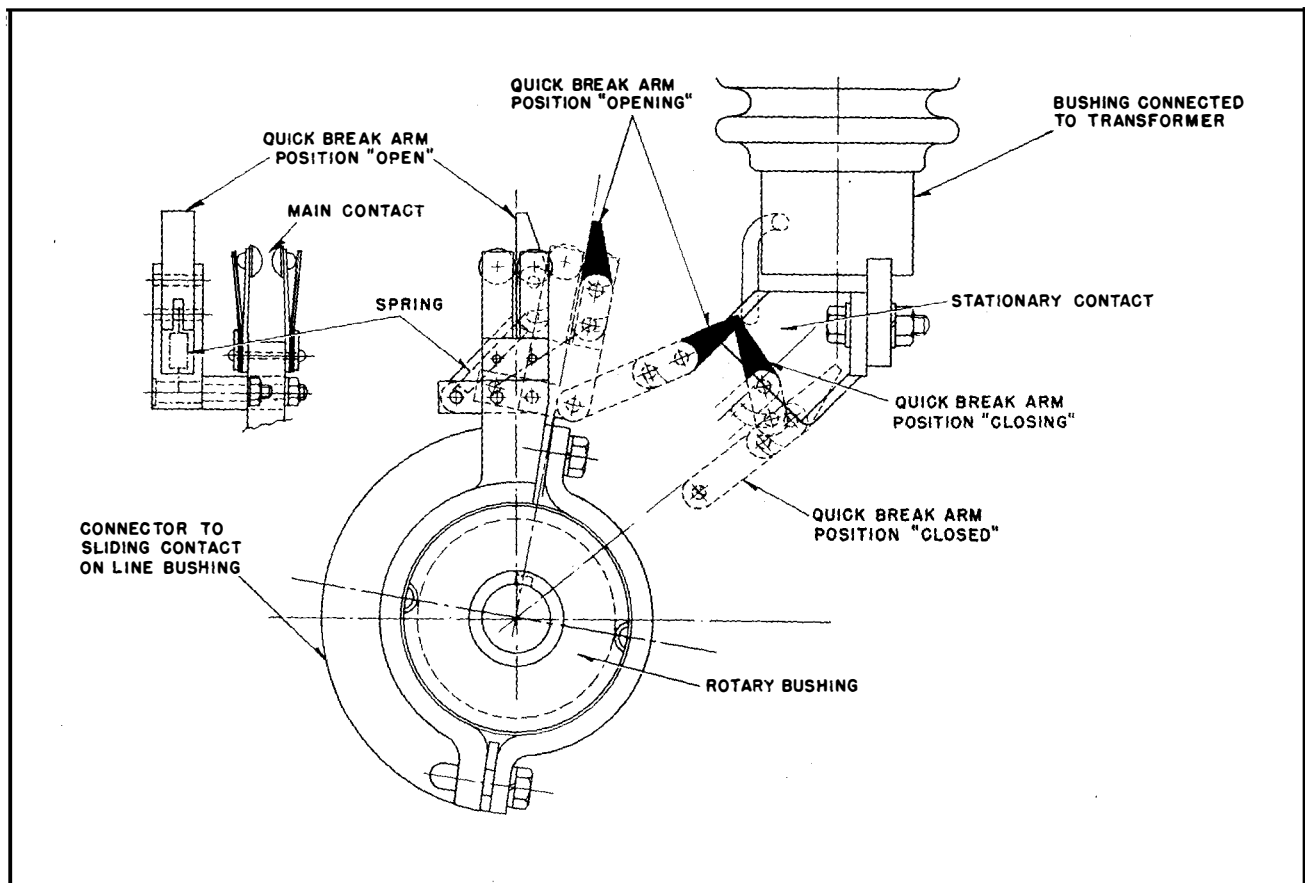

FIG. 7. Quick Break Mechanism Operation.
**Quick-Break Mechanism.** Normally the quick-break mechanism will not require maintenance. The mechanism uses an auxiliary contact arm which maintains the circuit as the switch is moved from "transformer" toward the "open" position. When sufficient clearance between main blade and its contact has been obtained, the auxiliary contact arm opens the circuit by quick-break action, regardless of the speed at which the operating handle is moved. See Fig. 7.